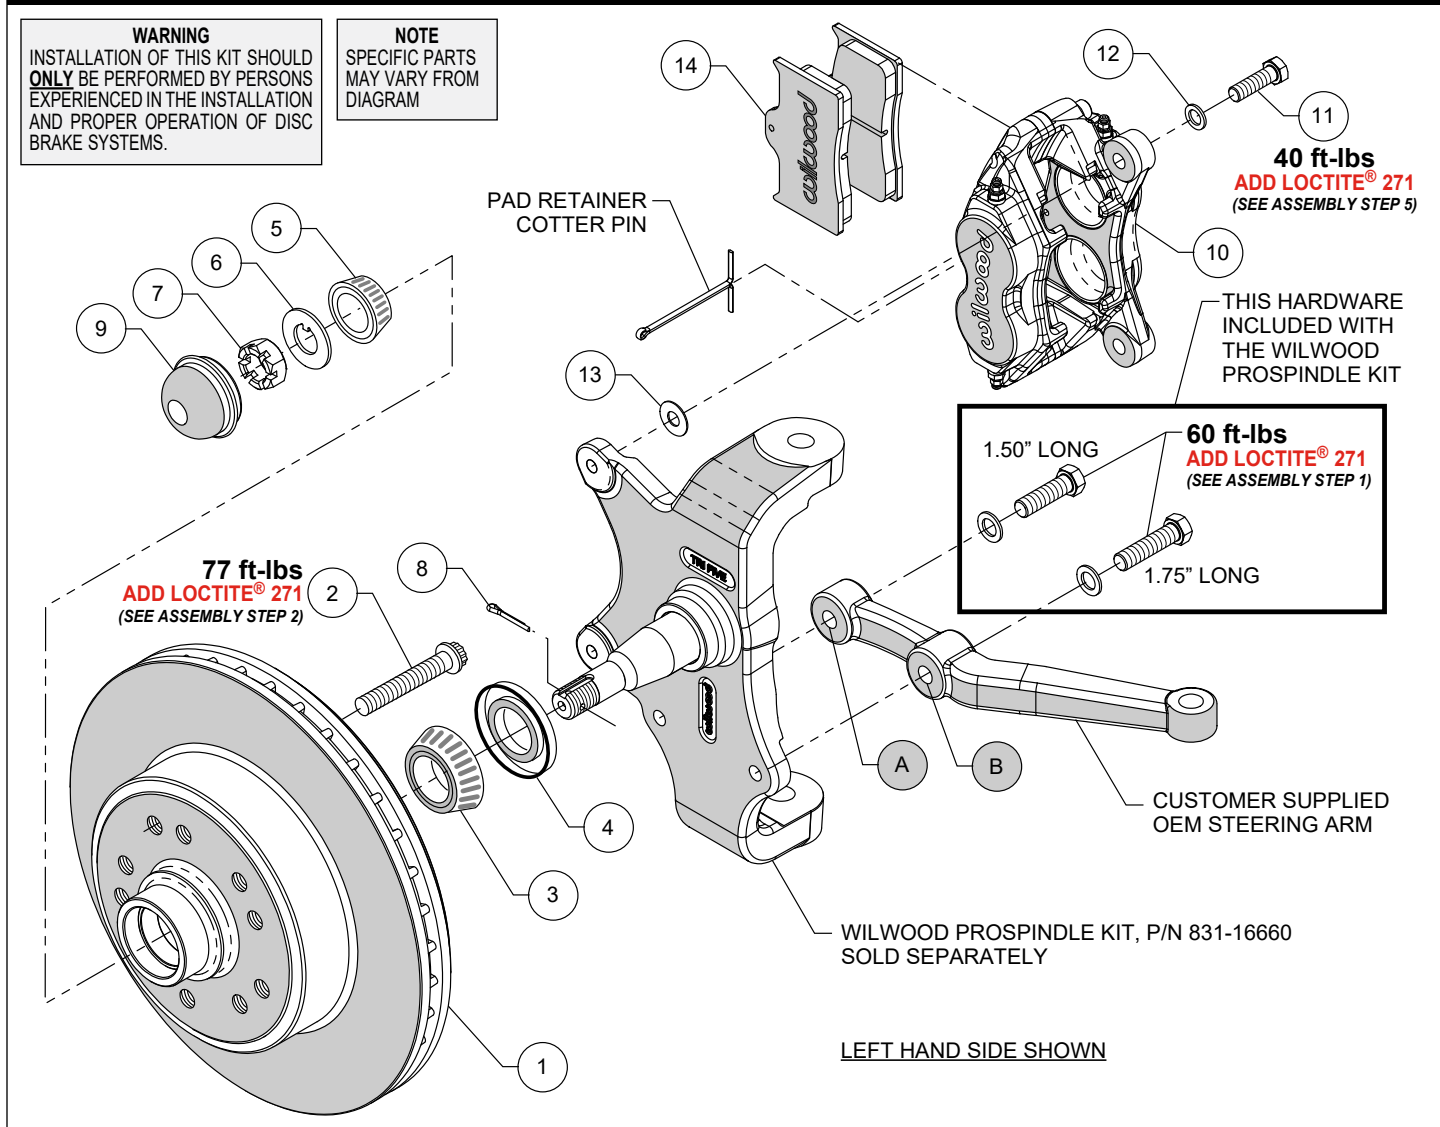

Figure 1. Typical Installation Configuration
Numbers in parenthesis refer to the parts list and Figure 1 on the preceding pages.
•**NOTE:** Wilwood's ProSpindle kit (p/n 831-16660) includes bolts and washers to mount the steering arm (customer supplied) to the spindle. The various bolts are identified by length in the following instructions and in Figure 1.
STEP 1 Orient the steering arm, and identify the hole marked "A" as shown in Figure 1. Attach arm to spindle using 1.50" long bolt and washer (from ProSpindle kit), Figure 1. Finish attaching the steering arm through the hole marked "B", using 1.75" long bolt and washer (from ProSpindle kit), Figure 1. Temporarily tighten the mounting bolts. **NOTE:** The steering arm must fit squarely against the mounting points on the spindle. Inspect for interference from casting irregularities, machining ridges, burrs, etc. Remove bolts one at a time, apply red Loctite® 271 to threads, and torque to value shown in Figure 1.
STEP 2 Install wheel studs (2) into the hub of the rotor (1), Photo 1. Apply red *Loctite*® 271 to the threads and torque to value shown in Figure 1. **NOTE:** There are two five lug patterns in the hub (5 x 4.50 and 5 x 4.75). Ensure the correct hub stud pattern is being used to fit the wheel application.
STEP 3 Pack the large inner bearing cone (3) with high-temp disc brake bearing grease (available from your local auto parts store) and install into the backside of the rotor/hub (1), Figure 1 and Photo 2. Install the grease seal (4) by pressing into the backside of the rotor/hub (1), flush with the end of the hub.
STEP 4 Pack the small outer bearing cone (5) with high temperature disc brake bearing grease and install into the front side of the rotor/hub (1), Photo 3. Slide the rotor/hub onto the spindle. Secure using spindle washer (6) and spindle nut (7), Photo 4. **Bearing adjustment:** Tighten the nut while turning the hub. When there is a slight bind on the bearings, they are seated correctly. Back the nut off about 1/6 to 1/4 of a turn, or sufficiently to allow .001" to .007" end play. **WARNING:** Failure to back off adjusting nut could cause bearing to run hot and be damaged, which could cause the wheel to lock or come off. Install cotter pin (8). Press the dust cap (9) into hub of rotor (1), Photo 5. **NOTE:** Do not hammer center of cap, install using outer flange only.
STEP 5 Mount the caliper (10) onto the mount bosses of the Wilwood ProSpindle using bolts (11) and washers (12), as shown in Photo 6 and Figure 1. Initially place one .035" thick shim (13) on each bolt between the caliper and the bracket. Temporarily tighten the mounting bolts and view the rotor (1) through the top opening of the caliper. The rotor should be centered in the caliper, Photo 7. If not, adjust by adding or subtracting shims (13) between the bracket and the caliper. Always use the same amount of shims
on each of the two mounting bolts. Once the caliper alignment is correct, remove the bolts one at a time, apply red *Loctite*® 271 to bolt threads, and torque to value shown in Figure 1.